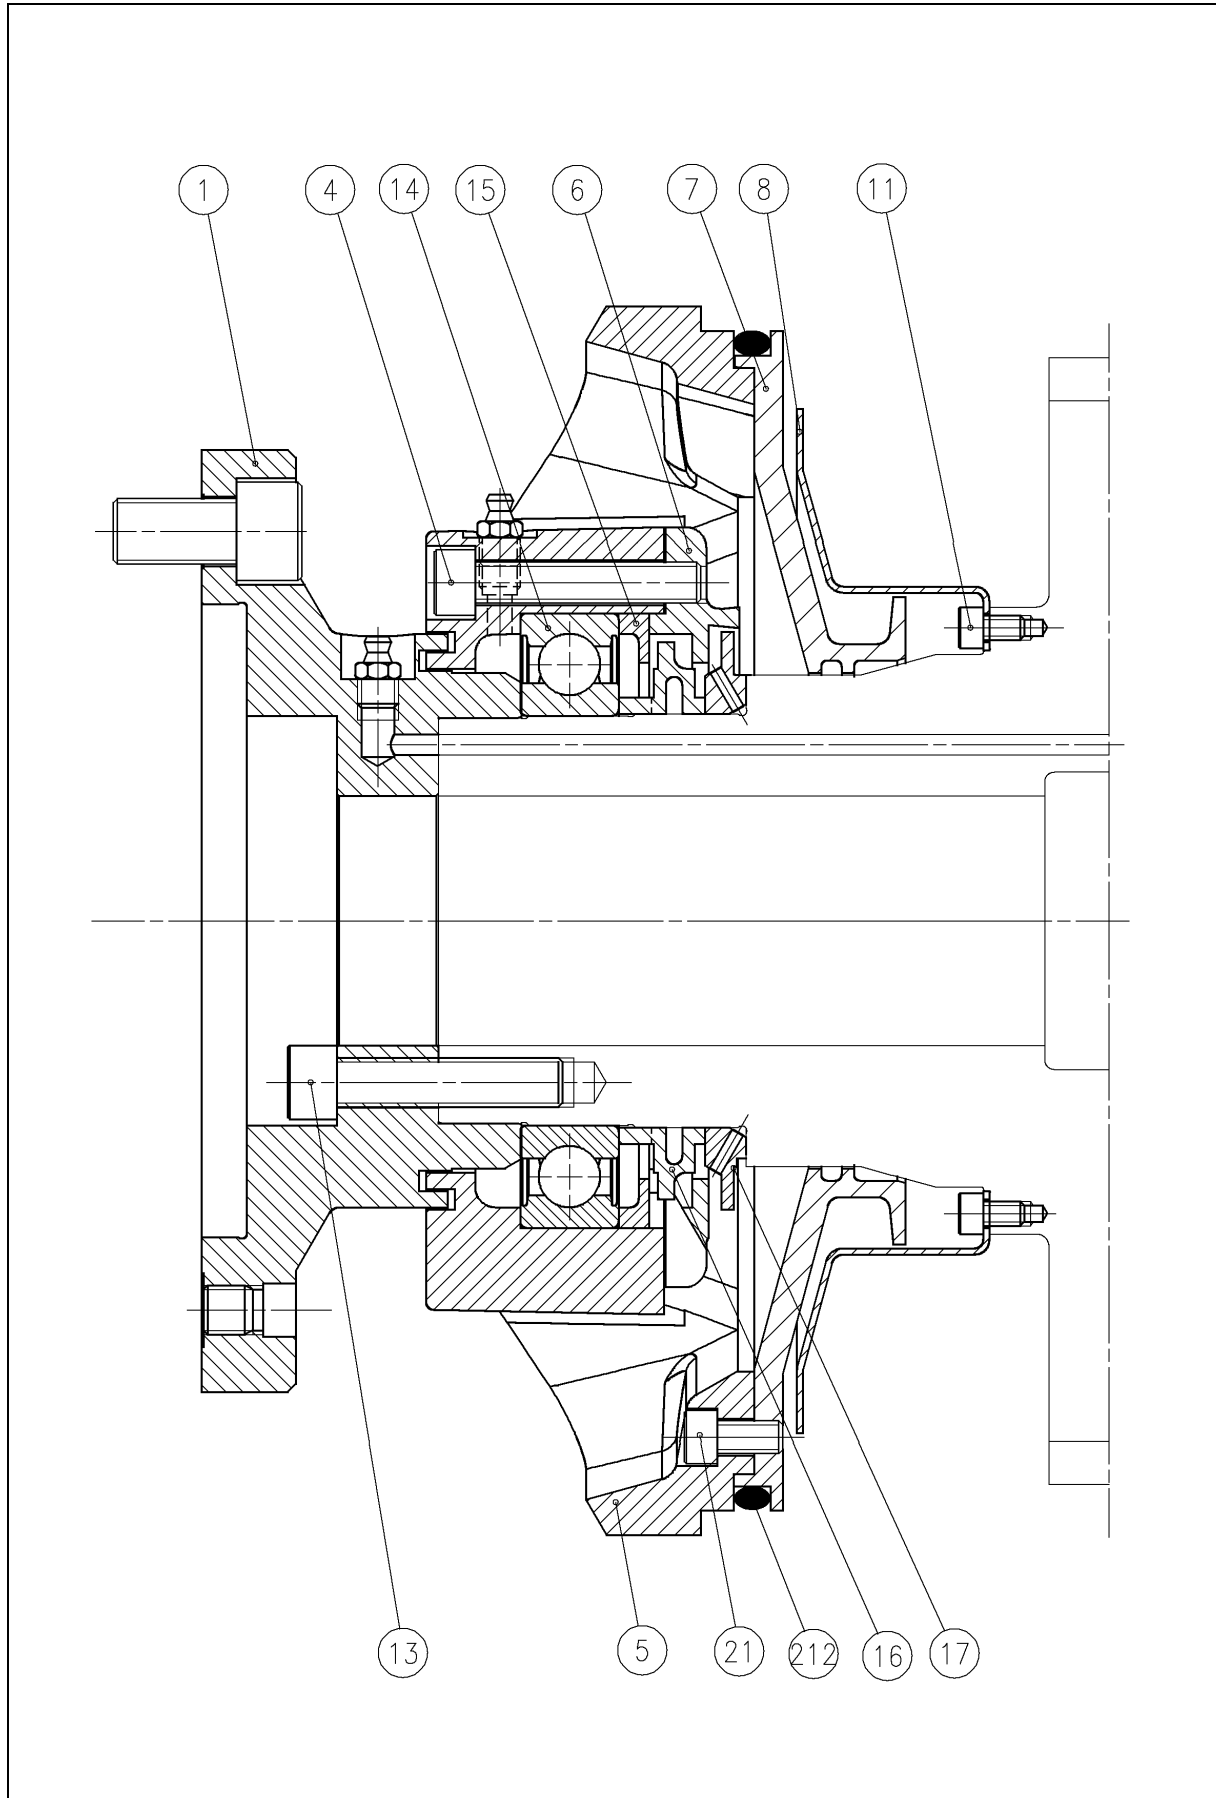

Figure 4.2.1
4.2 Main Bearings (Fig. 4.2.1)
4.2.2 Assemble Main Bearing Large End (Fig. 4.2.1)
Insert the screw [7] and the block [12] by using two of the screws ([15] in Figure 4.2.1) holding the gearbox flange. Push off the needle bearing outer race [9] by turning the screw [7].